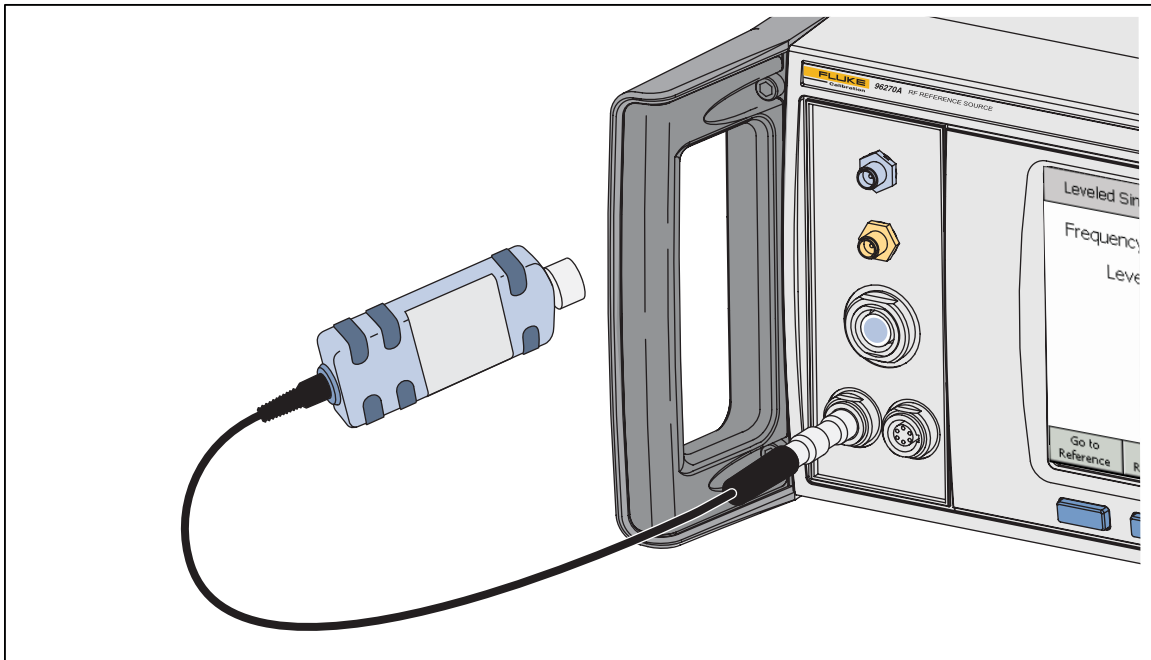

Figure 3-26. Connect the Power Sensor(s) (96270A)
2. Connect the multiway connector to the appropriate sensor 1 or 2 connector on the Instrument. Push firmly on the multiway connector until it latches. See Figure 3-26.